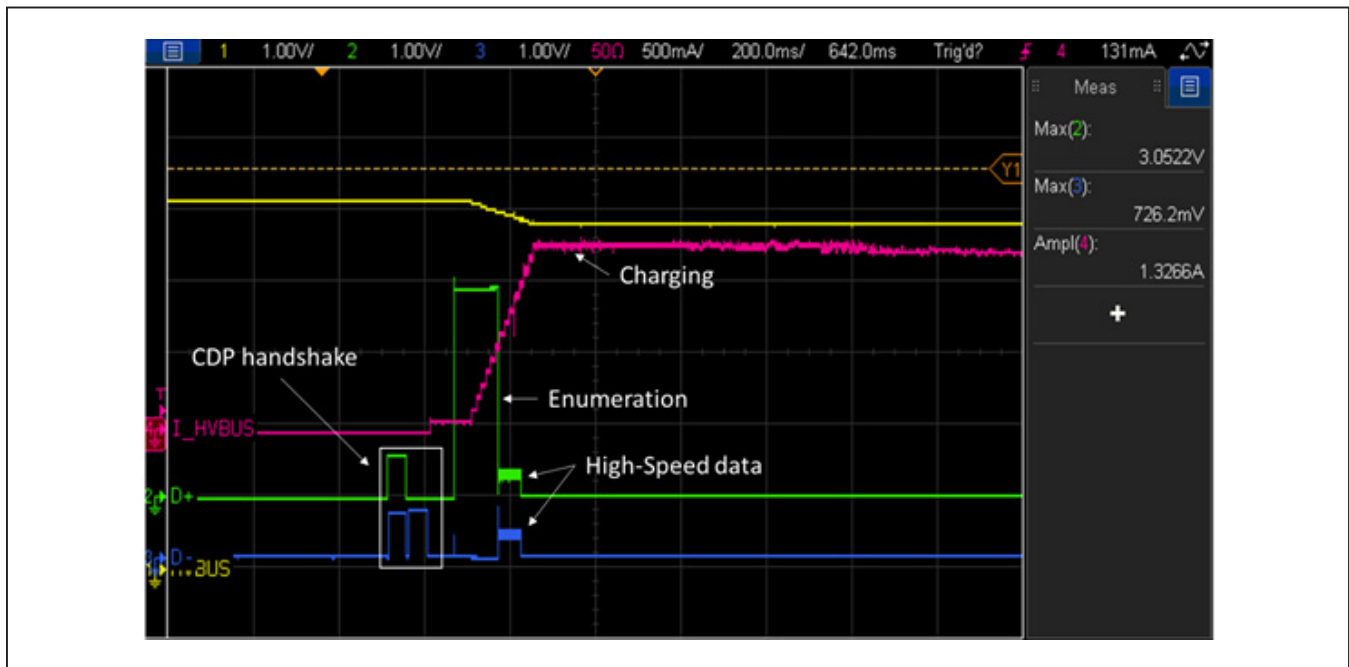

Figure 9. Auto-CDP Response
- 3) Note the CDP handshake on the HVDP and HVDM pins, which indicates to the phone that it may pull up to 1.5A of load and can enter USB high-speed data transfer after enumeration (see Figure 9).